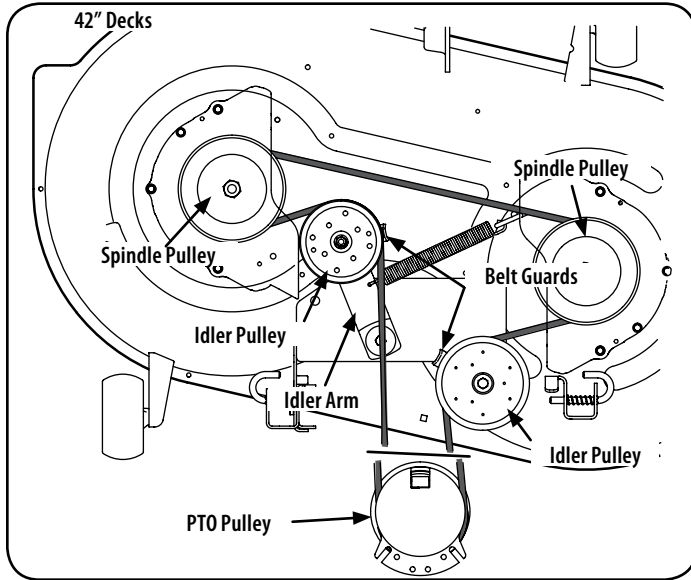
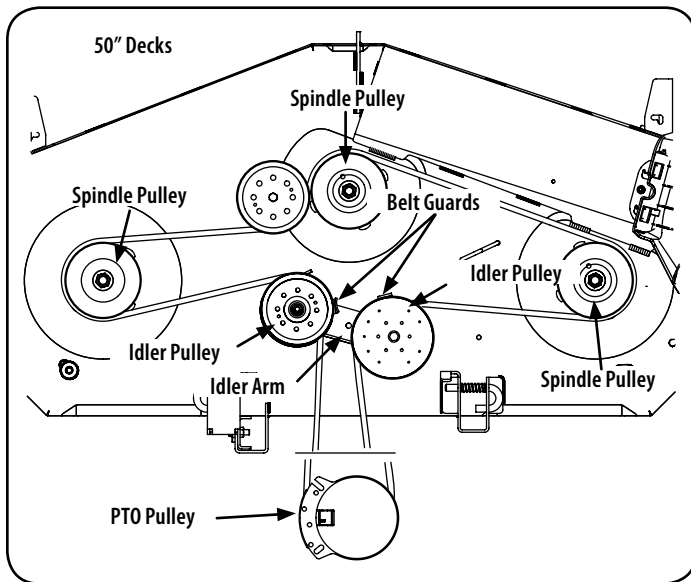

Figure 29
Figure 30
2. Loosen, but do not remove the hardware on the right and left idler pulley. Refer to Figure 29 for 42" decks and Figure 30 for 50" decks.